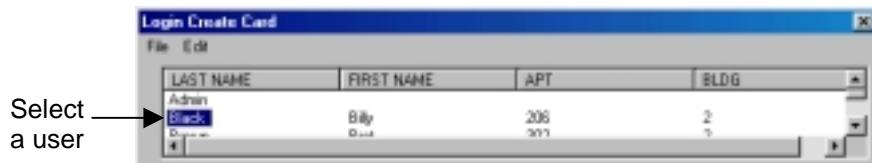

Figure 4.18 Selecting a User
2. In the User List Window select user whose privileges will be copied (Figure 4.18).
4. In the User List Window select user to copy privileges to (Figure 4.18).